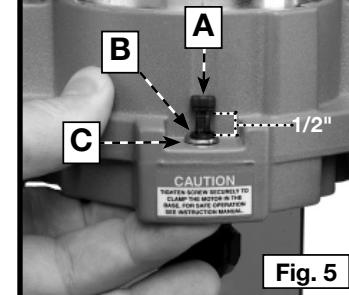
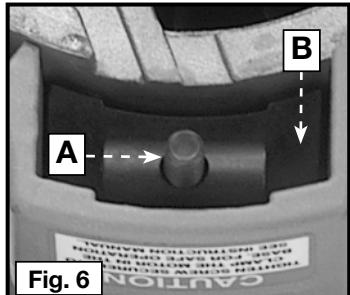
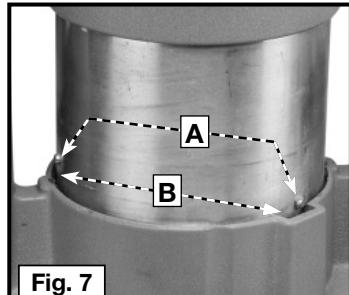

Fig. 5
Fig. 6
Fig. 7
1. Support the motor clamp (Fig. 5) and loosen the motor clamp screw (A) Fig. 5 approximately 1/2" with the hex wrench (furnished).
2. Insert the motor unit into the base with the switch positioned at the front of the left handle. Align the four pins (A) Fig. 7 (two of which are shown) in the motor case with the slots (B) Fig. 6 in the base.
1. Remove the clamp screw (A) Fig. 5, flat washer (B), lock washer (C), and clamp-locking nut (A) Fig. 6.